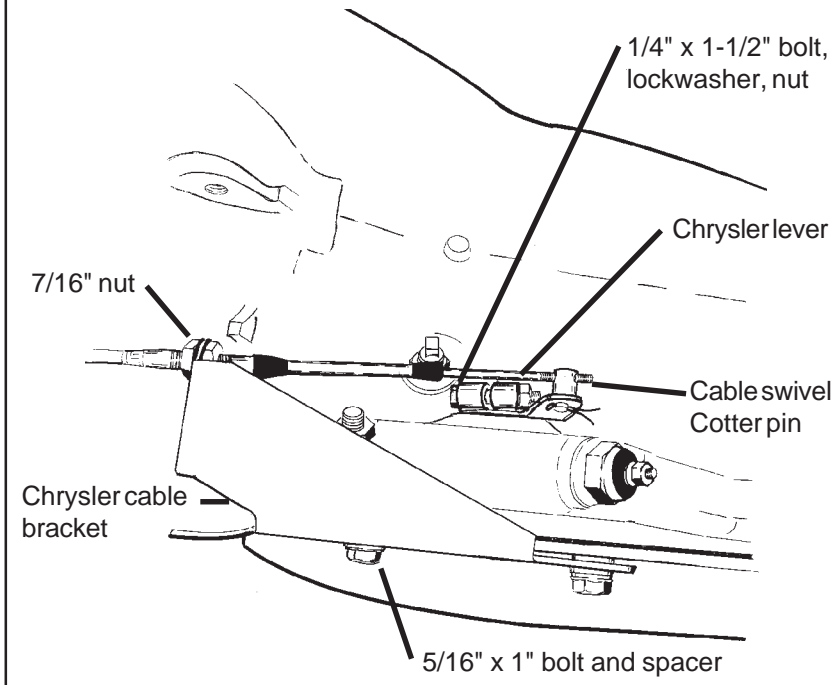

Figure 9
STEP 21. If you have not already done so, loosen pinch bolt on throttle lever on transmission. This is the lever on the small diameter shaft. Pry the lever off with a screwdriver and allow linkage to hang free. Remove and discard stock shift lever and stock shift linkage. Install B&M selector lever in position and tighten pinch bolt securely, (See **figure 9**). Make sure lever is not pushed down so far as to touch the transmission case. This will cause the lever to bind on the case. The lever should travel smoothly from front to back with a
STEP 22. Remove the two transmission oil pan bolts directly below the shift lever. Install cable bracket in position, (See **figure 9**), with two spacers between the pan and bracket. (If your transmission is equipped with a cast aluminum oil pan these spacers can be omitted.) Install the two 5/16-18 x 1.00" pan bolts supplied and tighten to 12-13 ft. lbs. Do not overtighten as this can damage pan gasket. **STEP 23.** Route the shifter cable according to **figure 5**. Avoid kinks and sharp bends and route the cable away from hot engine or exhaust parts.